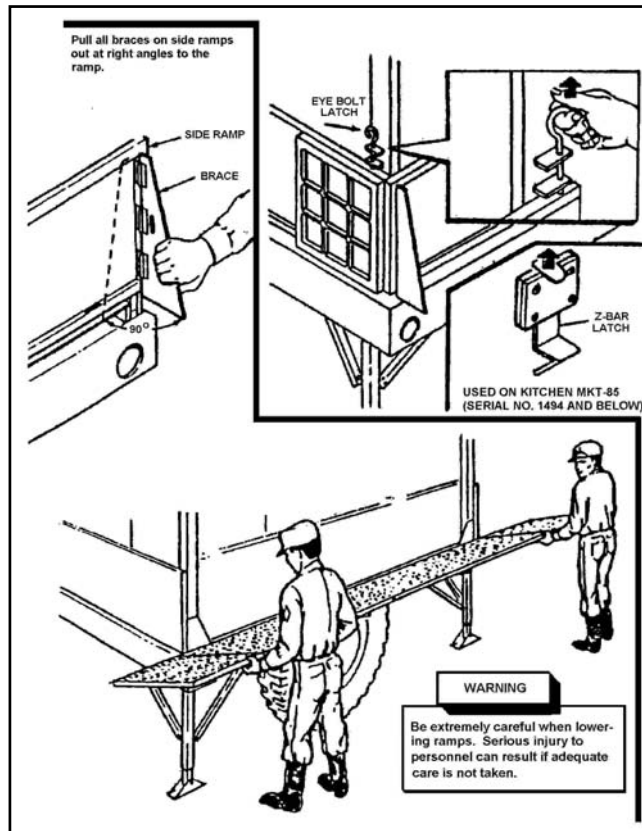

Figure 3-2. Lowering the Side Ramps
- a. Make sure all braces are folded out on the side ramps (see Figure 3-2).